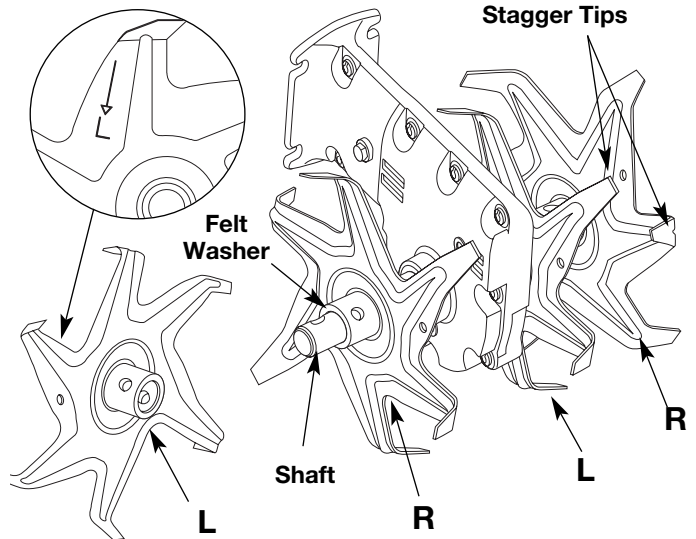

Fig. 12
- Before you reinstall the clevis pins and pin clips, ensure that the tips on the tines are staggered when compared to each other (Fig. 12).